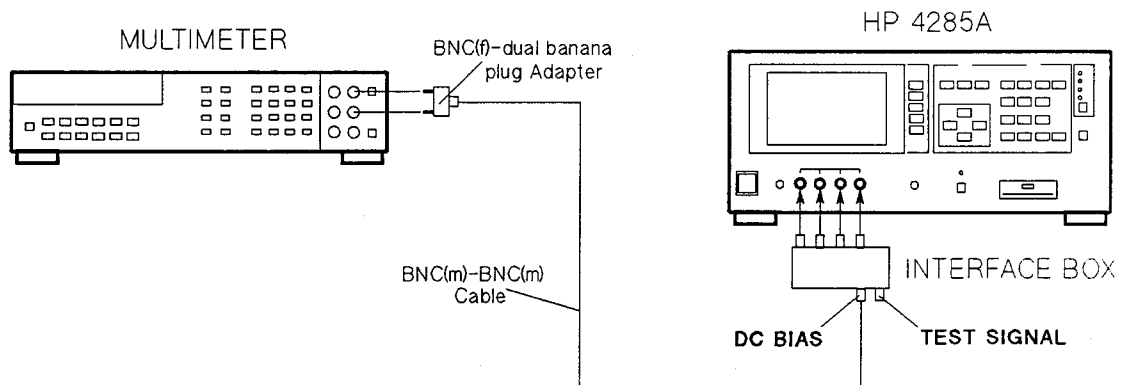

Figure 2-13. DC Bias Level Adjustment Setup
4. Perform the adjustment according to the program instructions. Figure 2-13 shows the adjustment setup.